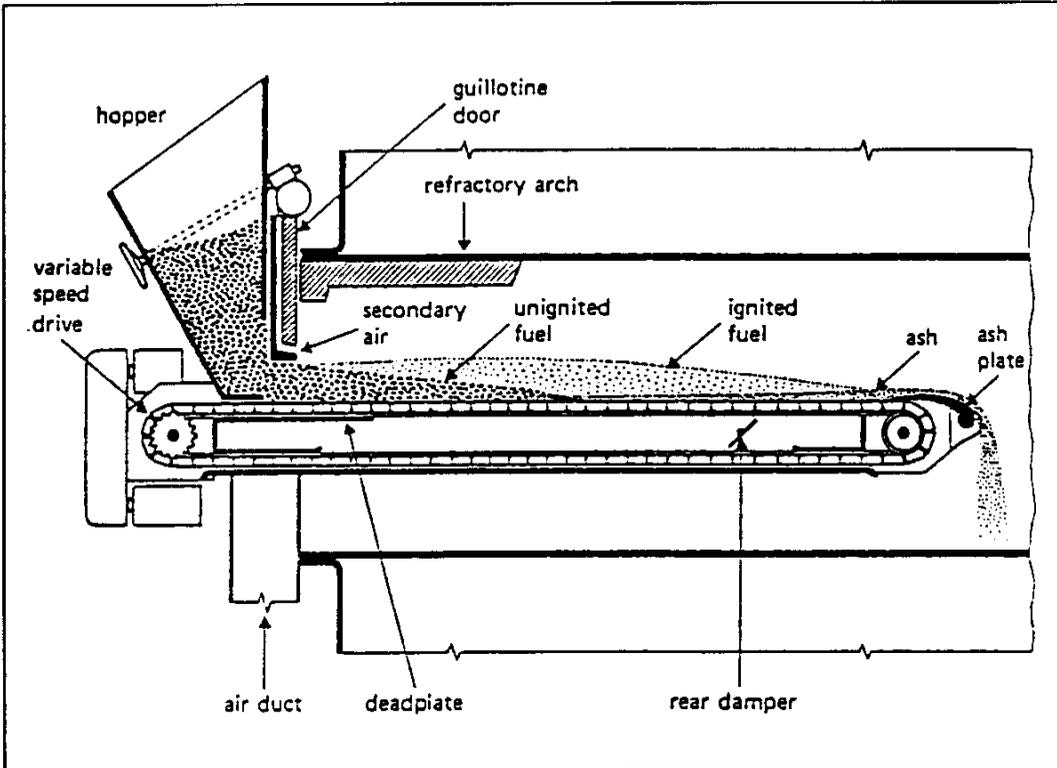

Figure 2-4. Traveling grate.
- *Traveling Grates.* (Figure 2-4) The coal falls on the grate, and combustion is completed as it moves slowly through the furnace. The ash remains and falls into the pit when the grates pass over the sprocket. Ash discharge is at the rear of the furnace.